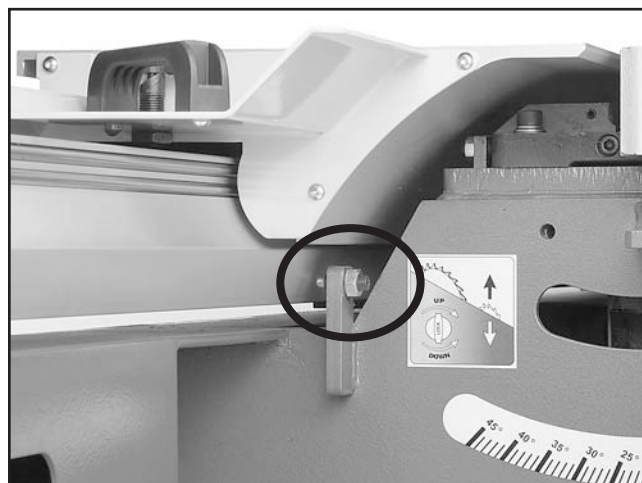

Figure 129. Table parallelism adjustment screw.
8. Loosen the hex nut on the parallel adjustment screw (see **Figure 129**), then adjust the screw as necessary to move the table. If you move the adjustment screw away from the table, then push the table against the screw before proceeding.